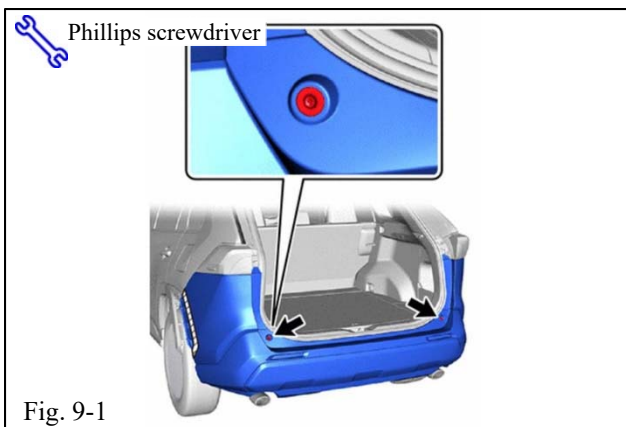

Fig. 9-1
- (a) Use a Phillips #2 screwdriver to remove the (2) rear bumper upper stoppers (Fig. 9-1).
(1) Unclip both cover plates by hand.
- ⚠ (2) Place the removed parts in a place where they will not be damaged.
(3) Set the fastening hardware aside for reuse.